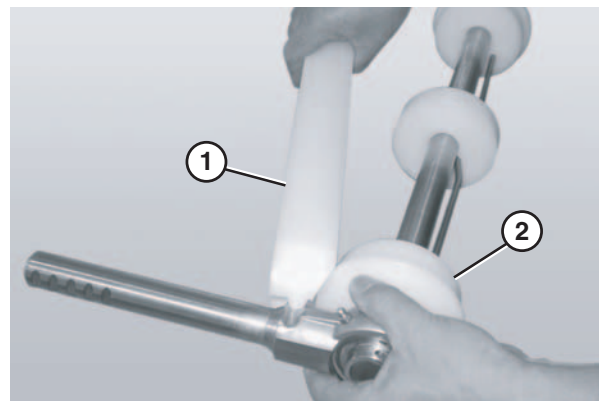

Figure 89
3. Attach the flanged pucks (Figure 89, item 2) and bearing shaft assemblies to the idler shaft.
4. Attach the guard bar (Figure 89, item 1).